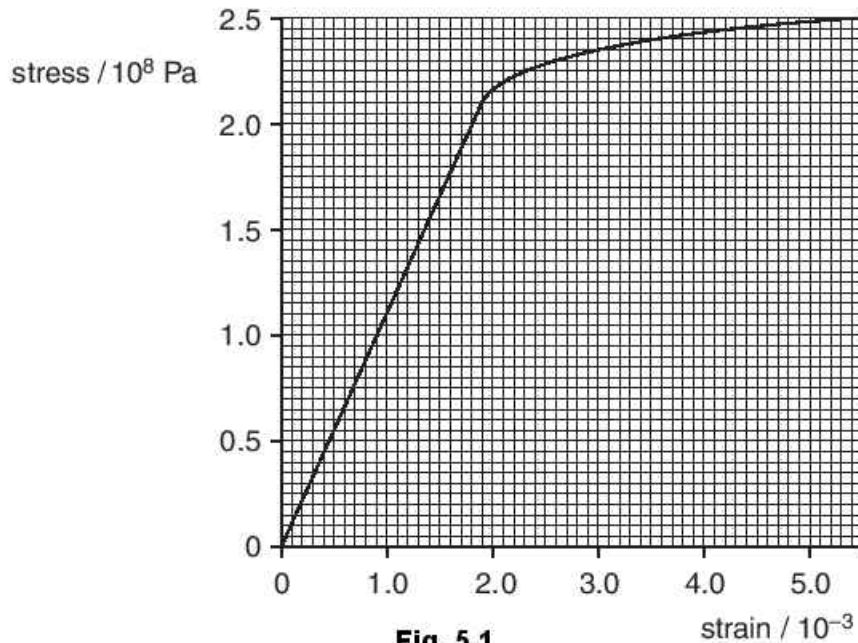

Fig. 5.1
- 4 (a) Tensile forces are applied to opposite ends of a copper rod so that the rod is stretched. The variation with stress of the strain of the rod is shown in Fig. 5.1.
- (i) Use Fig. 5.1 to determine the Young modulus of copper.
- (ii) On Fig. 5.1, sketch a line to show the variation with stress of the strain of the rod as the stress is reduced from 2.5×10^6 Pa to zero. No further calculations are expected. [1]